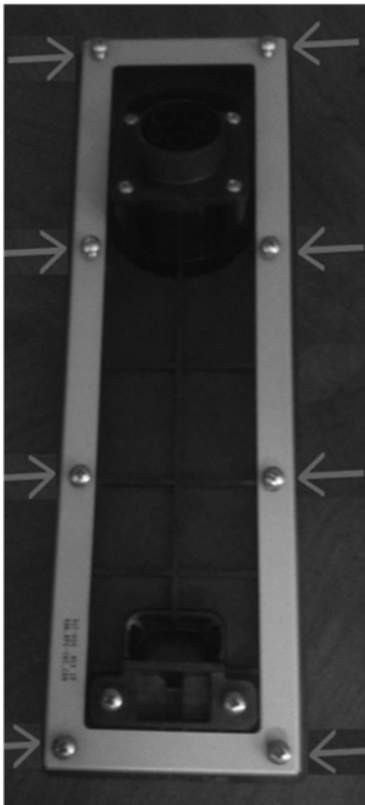

Figure 16 – Front Bezel (Rear View)
3. Remove the 8 Phillips-head screws from the metal retaining flange attaching the front bezel to the front housing see Figure 16). Retain the screws for later re-installation. Remove the retaining flange and pull the plastic bezel forward off the housing.
12. Place the plastic bezel onto the front housing. Install the retaining flange behind the bezel and install the 8 Phillips-head screws in the metal retaining flange. Torque screws to 10 in-lbs. Do not over-tighten screws or you may damage the plastic! (See Figure 16)